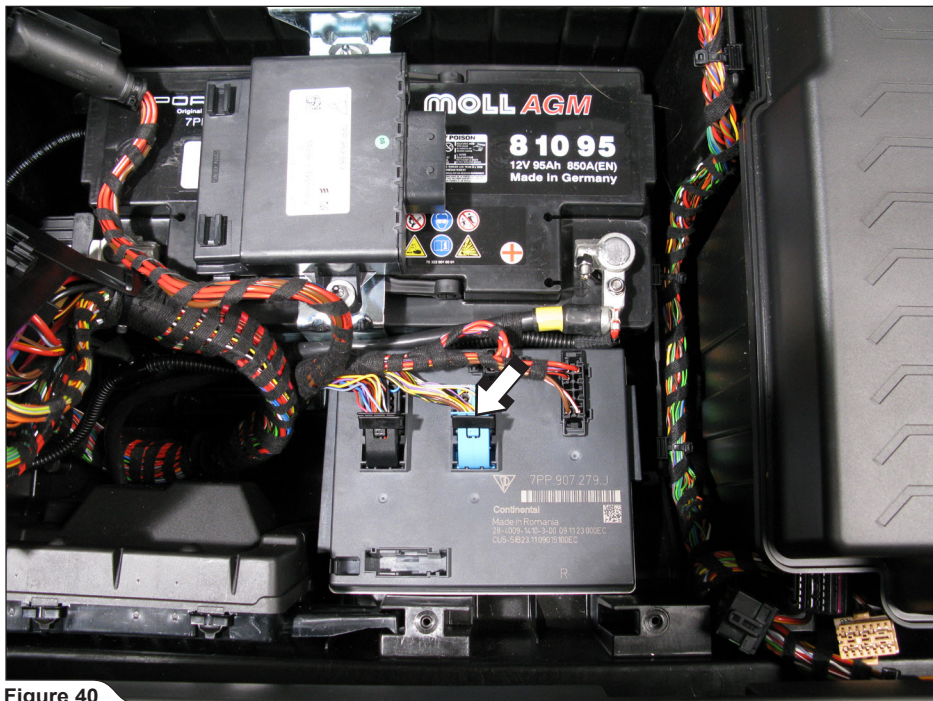

Figure 40
4. Pull the ECU unit out of the socket and disconnect the blue connector (Figure 40).